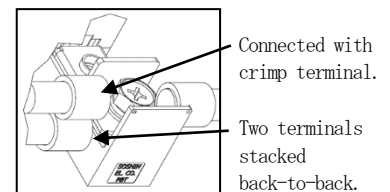

Figure 2: terminal block connection (stacked terminals)
6. EMI filter equipped with terminal block (Figure 2.) should be connected, using crimp terminal (stacking of crimp terminals allowed up to two). For any other mean of connection, please consult with our sales representative.